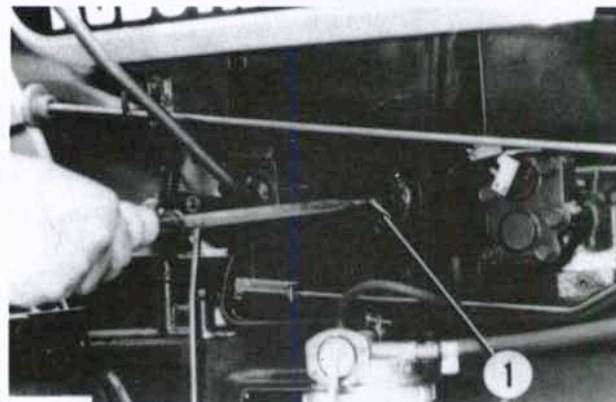

Fig. 26—Turn steering gear adjusting screw (1) to adjust steering wheel free play.
13. ADJUSTMENT. Steering wheel free play should be within range of 25-50 mm (13/16 -2 inches) measured at steering wheel rim. To adjust free play, turn adjusting screw (1 - Fig. 26) clockwise to reduce free play or counter-clockwise to increase free play.